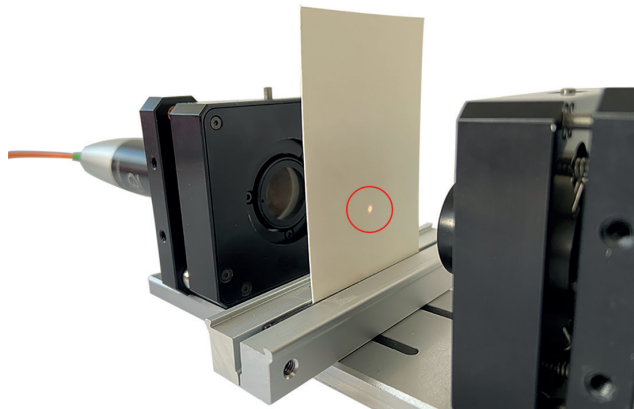

Fig. 7 Measuring spots coincide
- ➡ Adjust the alignment of the sensors using the set screws for horizontal and vertical shifting so that the measuring spots coincide with one another as exactly as possible, see Fig. 7.